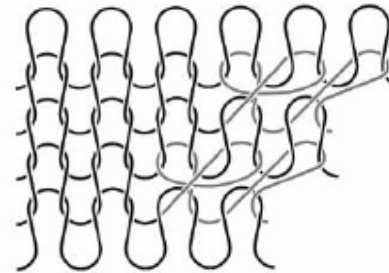

Fig. 16.10 Modern integral garment technology assures precisely-formed loops which are crucial to the production of shaped garments [Shima Seiki].
- A similar technique has been developed for automatic **V-bed machines**, when it is termed a ***spiit stitch*** (Fig. 16.10).